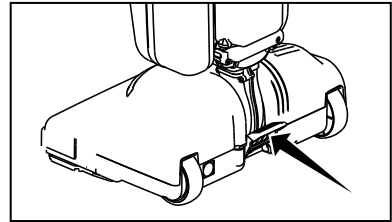

Fig. 2
- Press the Handle Release Pedal once for normal vacuum cleaning (Fig. 2).